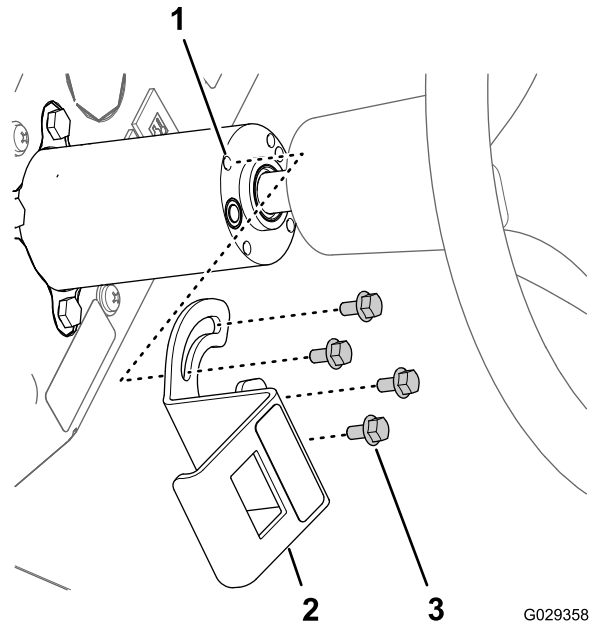

Figure 25
1. Align the slots in the mounting bracket for the FOAM-CONTROL switch with the 4 threaded inserts in the steering column (Figure 25).
3. Align the 8-socket connector through the opening in the bracket and connect the connector to the pins (Figure 25) at the back of the 3-position paddle switch (FOAM-CONTROL switch).